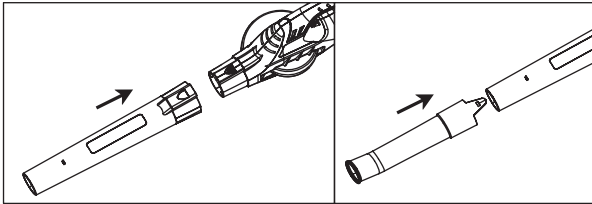
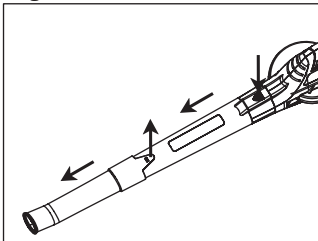

Fig.2
Fig 3
Assembling the blower tube (Fig. 2 & Fig. 3)
Fit the Blower Tube to the motor housing as shown in Fig 2. Check the Blower Tube is firmly secured.
Note: Before disassembling the Blower Tube, be sure the Speed Control Switch (4) is in "O" Off position. Press the Release Button(3) , so that you can separate the tube.(Fig. 3) Repeat the action (1), so that you can separate the Down Blower Tube.(Fig. 3) Do not try to separate the tubes by force or by using tools.